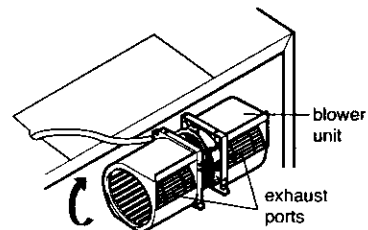

Figure 14
5. Rotate the unit so that the exhaust ports face the rear of the cabinet. See Figure 14. When you insert blower unit, blower wire must be like figure 14.